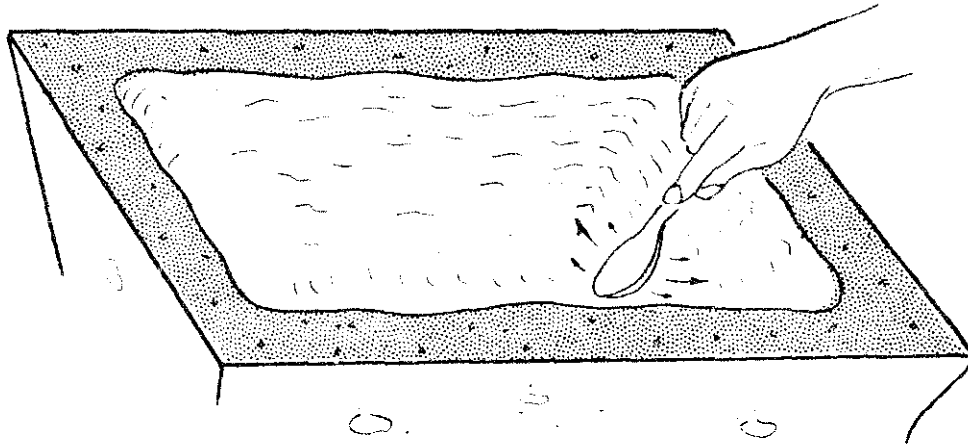

FIGURE 18
After the interior has been dug out, the walls will have stumped down about an inch. Use the cement taken from the interior to build the walls back up; then smooth all exposed surfaces with the back of the spoon as in Figure 18. To be sanitary, the bowl must be as smooth as possible so that germs cannot build up in crevices,
For a finishing coat, one of two methods may be used: (1) immediately after smoothing, sprinkle dry cement over the still wet surfaces and smooth again with the spoon (Figure 18); or (2) let the bowl set for half an hour and apply a mixture of pure cement and water—a coconut husk brush is good enough. Either method gives good results.